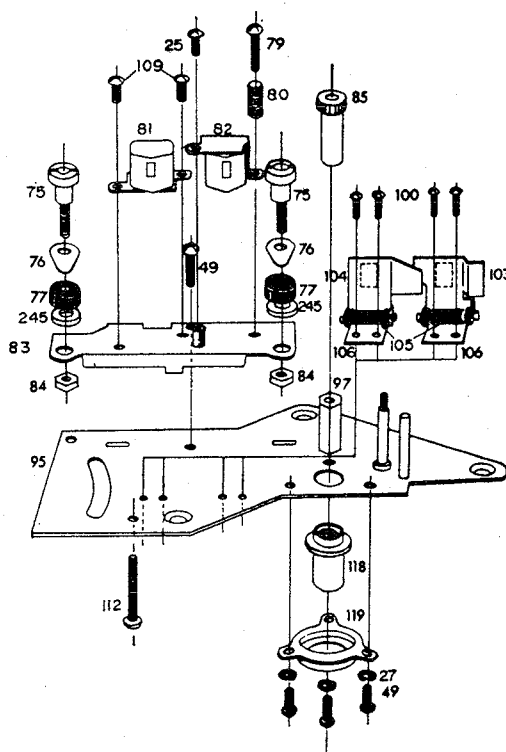

Figure 15
## 6. RECORD/PLAYBACK HEAD (82) ADJUSTMENT (Refer to Figure 15)
2. ADJUST the SCREW (25) of the RECORD/PLAYBACK HEAD (82) to obtain maximum output and best reproduction of high frequencies using the azimuth alignment tape.
## 7. HEADS (81) (82) HEIGHT ADJUSTMENT (Refer to Figure 5 and Figure 15)
## 8. TAPE PADS POSITIONING ADJUSTMENT (Refer to Figure 15)